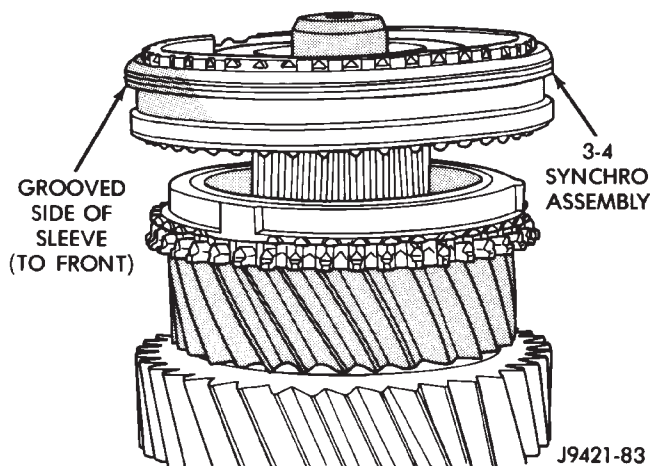

Fig. 76 Starting 3-4 Synchro Hub On Output Shaft
(31) Start 3-4 synchro hub on output shaft splines by hand (Fig. 76).